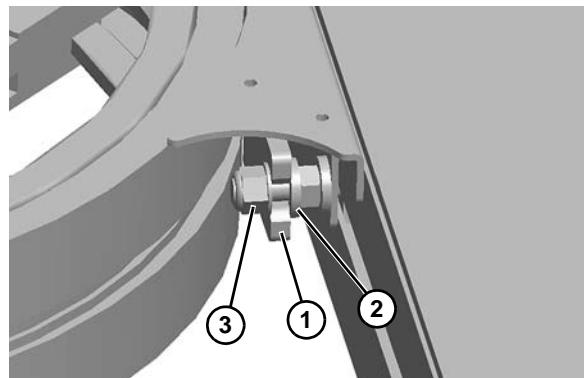

Figure 23
4. Connect conveyor sections together. Make sure that the tie bar (**Figure 23, item 1**) is positioned between washers (**Figure 23, item 2**) and hex nuts (**Figure 23, item 3**) on both sides.
5. Tighten hex nuts (**Figure 23, item 3**).